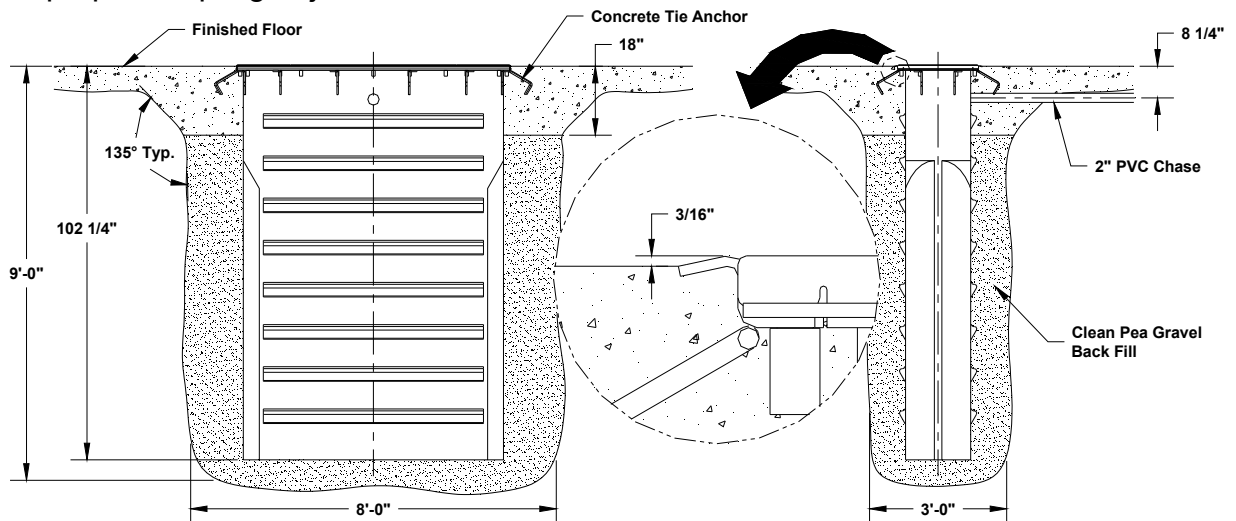

Fig. 2
New construction requires an excavation as shown in **Fig. 2**. **NOTE:** Concrete must be finished to edge of concrete tie ($3/16$ " below top of concrete ties, see **Fig. 2** below). All depths are measured from the finished floor level. Failure to comply will void the warranty. The power unit may be installed on the nearest wall or floor pedestal. The power unit should be located out of the working area around the lift and vehicle, but close enough to allow good visibility while operating the lift. Hydraulic and air lines from the lift should be recessed under the slab in a 2" sch. 40 PVC chase. CLI will supply the proper coupling to join the PVC chase to the lift.
9. Pour concrete floor taking care not to run concrete in or on top of the lift / containment assembly. **NOTE:** Concrete must be finished to edge of concrete tie (3/16" below top of concrete ties, see **Fig. 2**). The floor should slope away from the lift for drainage. The floor slope should not exceed 1/16" per foot. 3500 psi concrete, steel reinforced per local commercial practice is required. The new concrete must be mechanically joined to the existing floor with rebar.